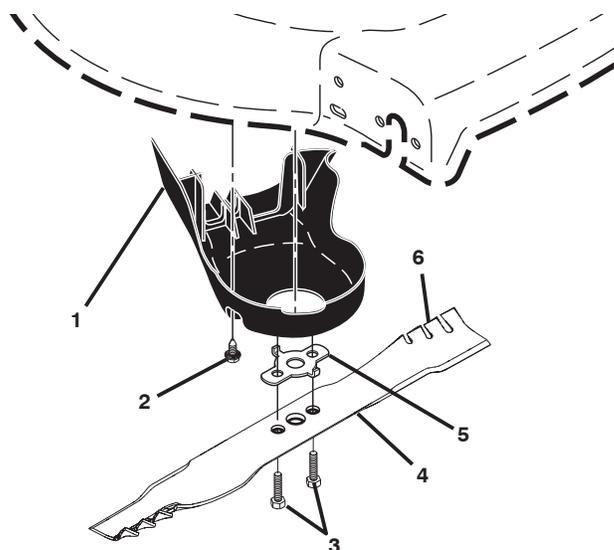

Figure 20
4. Remove blade bolts by turning counter-clockwise (Figure 20).
1. Install debris shield (Figure 20).